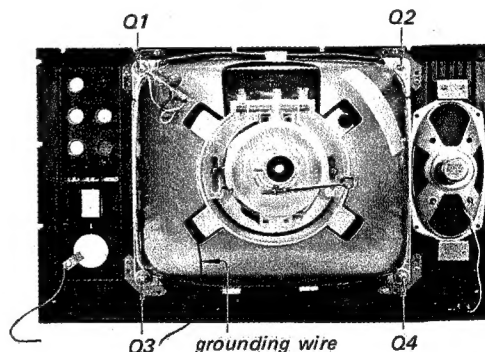

Fig. 2-22.
15. Remove the four nuts labeled Q1 ~ Q4 in Fig. 2-22.
2. Tighten the four nuts in Fig. 2-22.